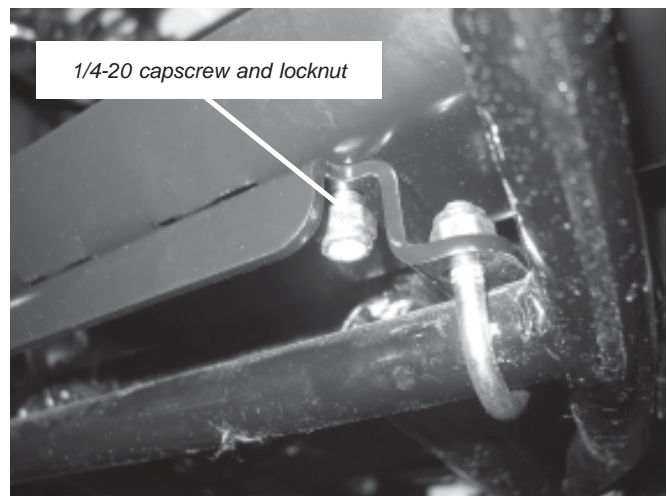

Figure 11
3. Place plow mount assembly on top of lower mounting bracket. Line up holes and use 1/4-20 capscrews to secure in place as shown in Figure 11. Torque 1/4-20 nuts to 8lb. ft. (10.8 N-m).